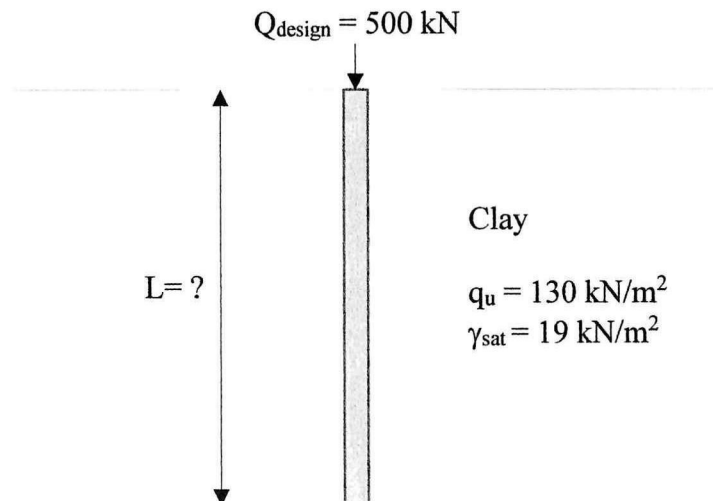

FIGURE Q4(c): Pile foundation in soft soil
- (c) A 0.36 m square prestressed concrete pile is to be driven in a clayey soil as shown in **Figure Q4(c)**. The design capacity of the pile is 500 kN. Design the necessary length of the pile if the factor of safety is 2.5 using α method. (13 marks)